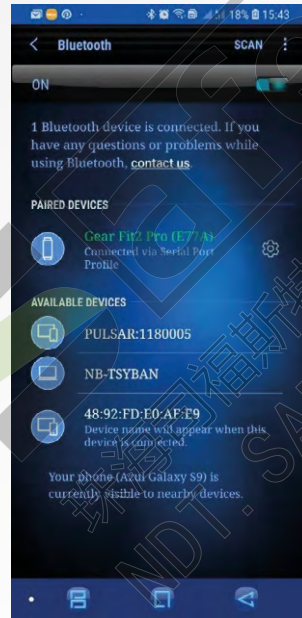

Fig. 3.1 Bluetooth pairing: step 1
2. Go to the Bluetooth setting and start discovering. The A1410 device will appear in the "Available devices" section (Fig. 3.1).